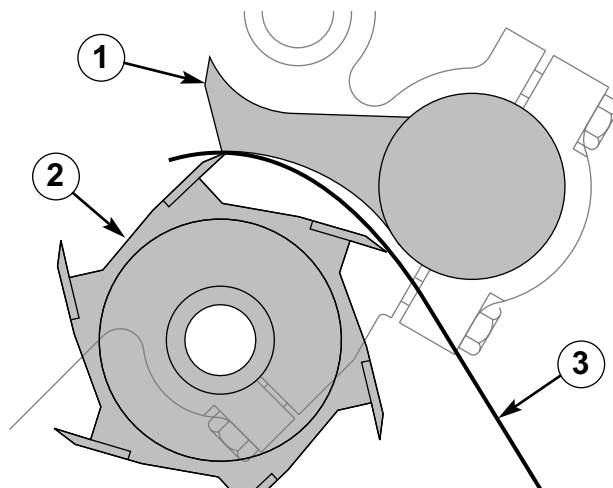

Figure 33 — Setting clearance between crosscut knife spindle and shear plate using feeler gauge. (1) Shear Plate, (2) Crosscut Knife Spindle, (3) Feeler Gauge.
1. **Insert .010" (.254 mm) feeler gauge** between crosscut knives and shear plate (Figure 33).